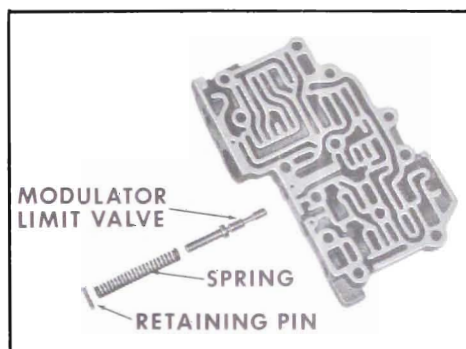

Figure 5-173
2. Install modulator limit valve, and spring into bore of valve body. With aid of Tool J-21547 compress spring and install retaining pin. See Figure 5-173.